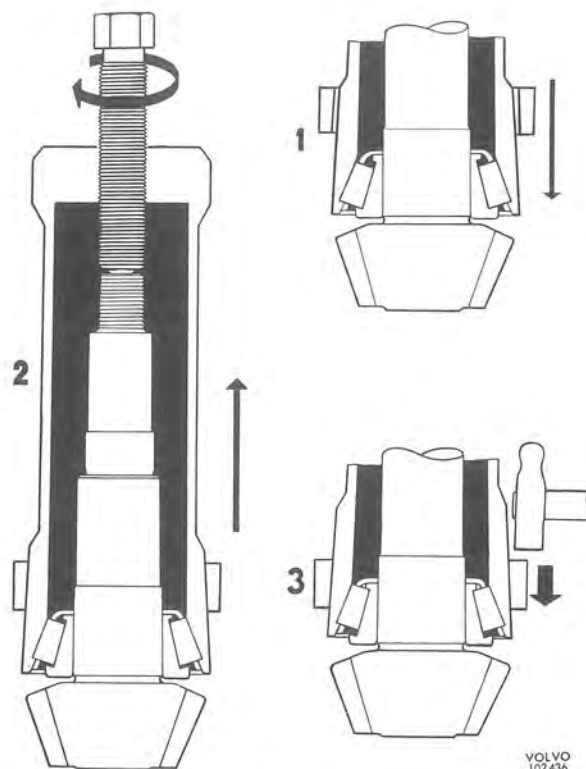

Fig. 4-150. Puller fitted
11. If necessary, pull off the rear bearing from the pinion with puller 2844, see Fig. 4-149. The puller is fitted in the following way (see Fig. 4-150): Move the puller down over the rollers and press down the lock ring. Then pull up the puller with the bolt until the rollers lie flush with the edge of the inner race and the edge on the puller. Tap out the lock ring with a hammer.